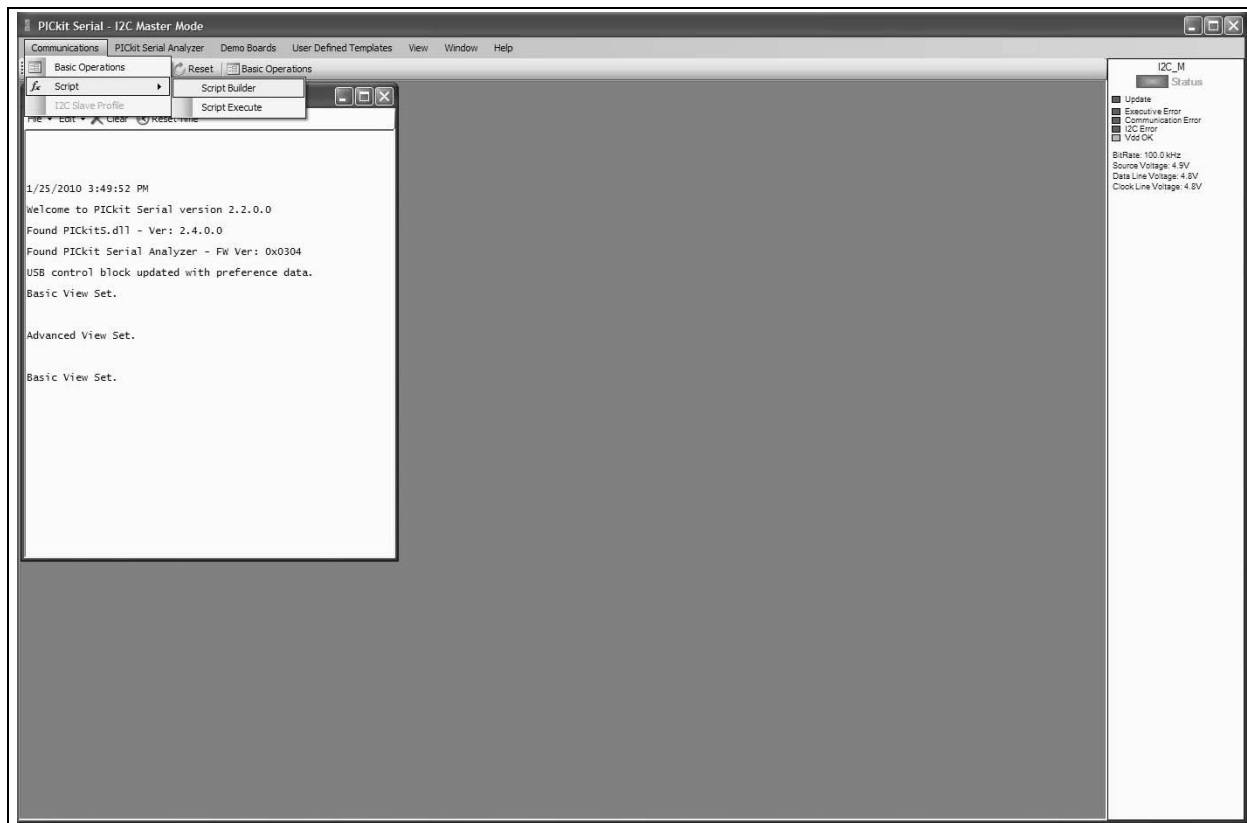

FIGURE 2-11: PICkit™ Serial - Script Builder Menu Selection.
Now we are going to open the Script Builder window, select the Communications -> Script -> Script Builder menu item (see Figure 2-11).
8. Open the Script Builder window (see Figure 2-11).